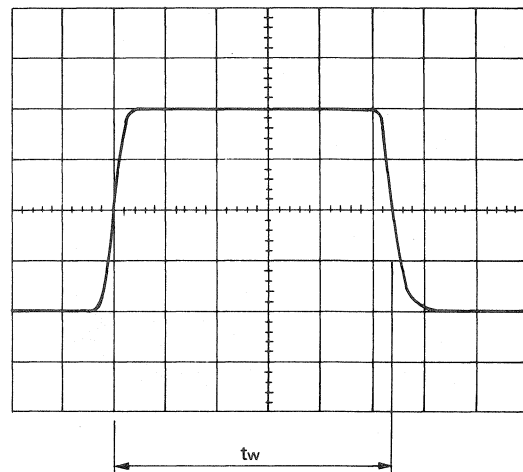

Fig. 8
- b) As in Fig. 8, the pulse width between the points where the pulse waveform crosses the center horizontal line is read out and calculated with formula (3).